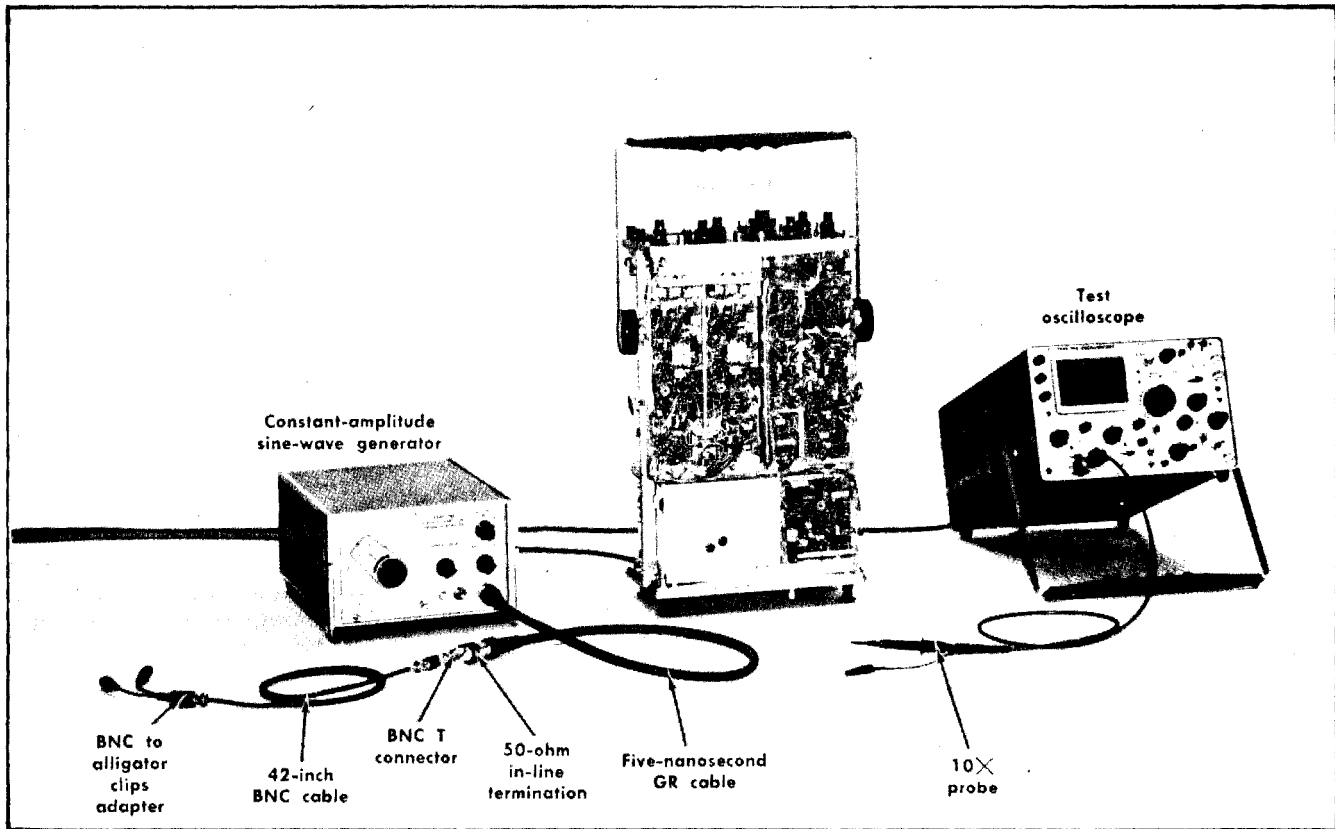

Fig. 6-60. Initial test equipment setup for steps 71 through 74.
71. Adjust Z Axis Compensation ①
a. Test equipment setup is shown in Fig. 6-60.